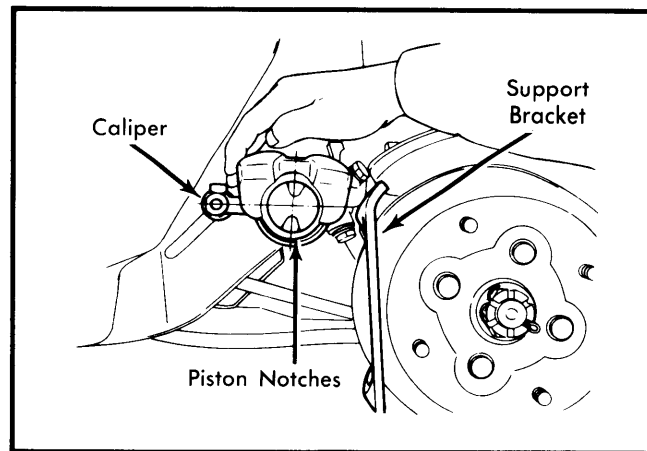

Fig. 2 Aligning Caliper Piston Notches for Replacing Disc Brake Pads
**Installation** — Turn piston clockwise with piston wrench (925590000) to seat piston in caliper bore and align notches. See Fig. 2. Install shim on outer pad only (if required), then install pads and springs. Rotate caliper body down and install stop plug and pin. Reconnect parking brake cable. Depress brake pedal several times to set pad-to-rotor clearance.